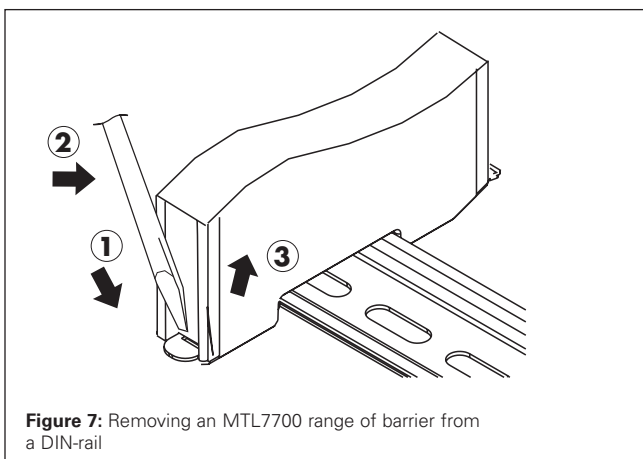

Figure 7: Removing an MTL7700 range of barrier from a DIN-rail
- d) To remove a barrier (figure 7), use the tip of a screwdriver (with a blade width of 4 to 5mm, minimum shaft length 60mm) to ease the metal clip at the base on the safe-area end outwards until the barrier is freed and can be removed easily by unhooking the hazardous-area end.